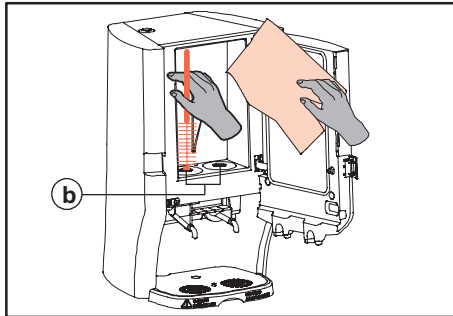

Fig. 47 Clean the round openings
9. Clean the interior of the cooling compartment with a clean damp cloth (fig. 47).
10. Clean the openings in the floor of the cooling compartment with clean warm water using the special brush supplied (fig. 47 b).